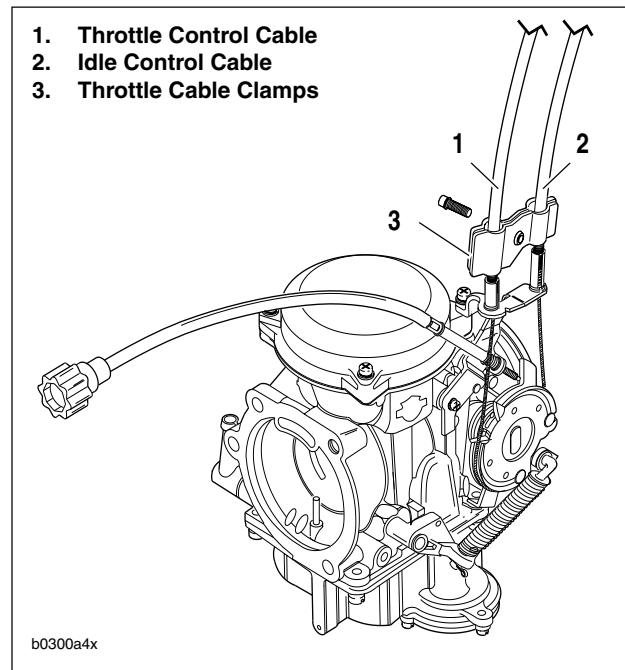

Figure 4-16. Throttle Cables
1. See Figure 4-16. Attach throttle cables.
- a. Install idle control cable (2) into longer, inboard cable guide on carburetor.
- b. Install throttle control cable (1) into shorter, outboard cable guide on carburetor.